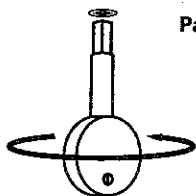

Figure 6
2. Rotate the key **CLOCKWISE** until the door pops open (Figure 6). **CAUTION:** Rotating the key incorrectly will break the key and possibly damage the dispenser.